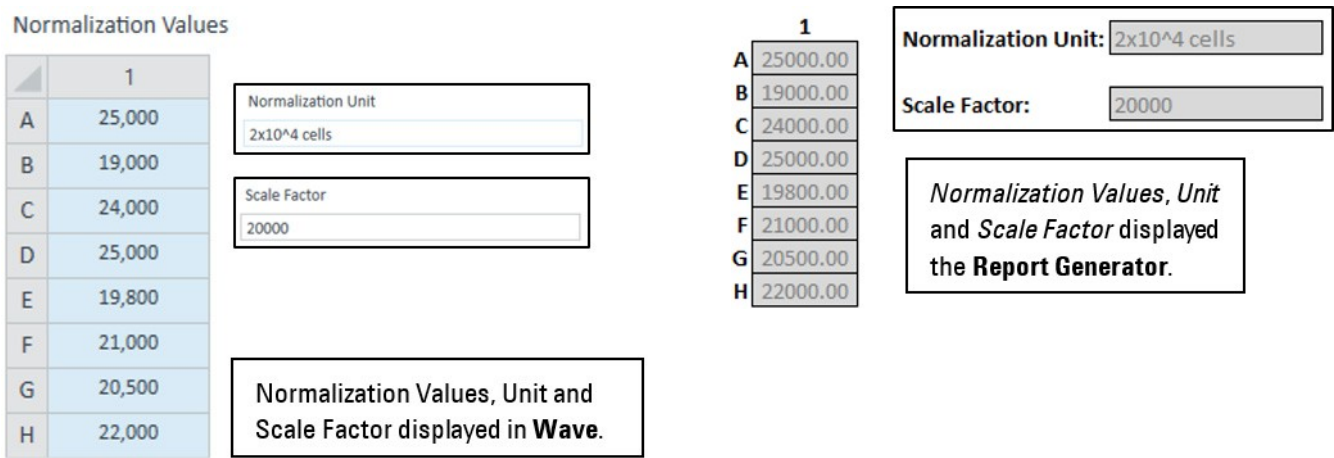

Figure 139. Report Generator normalize tab
**Exporting normalized data to a Report Generator** Normalized rate data in Wave Pro will be exported and used for parameter calculations in the Report Generator. Normalized data is displayed by default after selecting groups to display. To toggle the rate data display between normalized and raw data, use the **Normalize** button on the Summary Printout page. The **Normalize** tab in the Report Generator will display the normalization values, unit, and scale factor as exported from Wave Pro. (See Figure 139 on page 122.) For data integrity purposes,